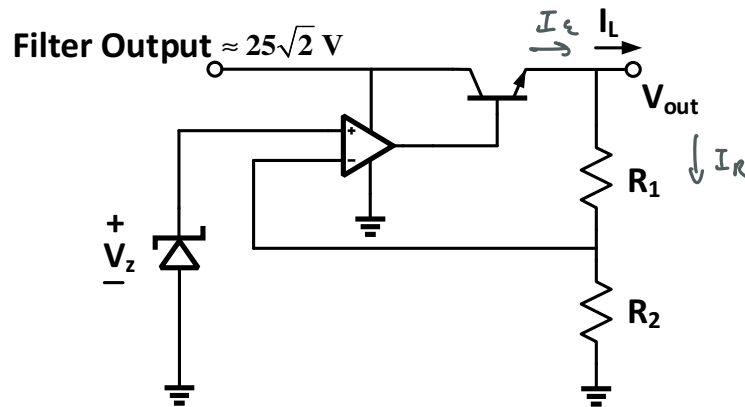

Figure 15: DC-DC conversion .
3. Consider the DC-DC conversion step that we implemented using the circuit shown in Fig.15 below.
Assuming that power consumed by the transistor is the main source of power loss in the converter shown in Fig. 15 compute the efficiency of the DC regulator you designed under full load conditions ( $I_L = 80 \text{ mA}$ ). Assume  $V_z = 4.7 \text{ V}$ ,  $R_1 = 10 \text{ k}\Omega$ ,  $R_2 = 10 \text{ k}\Omega$ , and  $V_{out} = 9.54 \text{ V}$ .